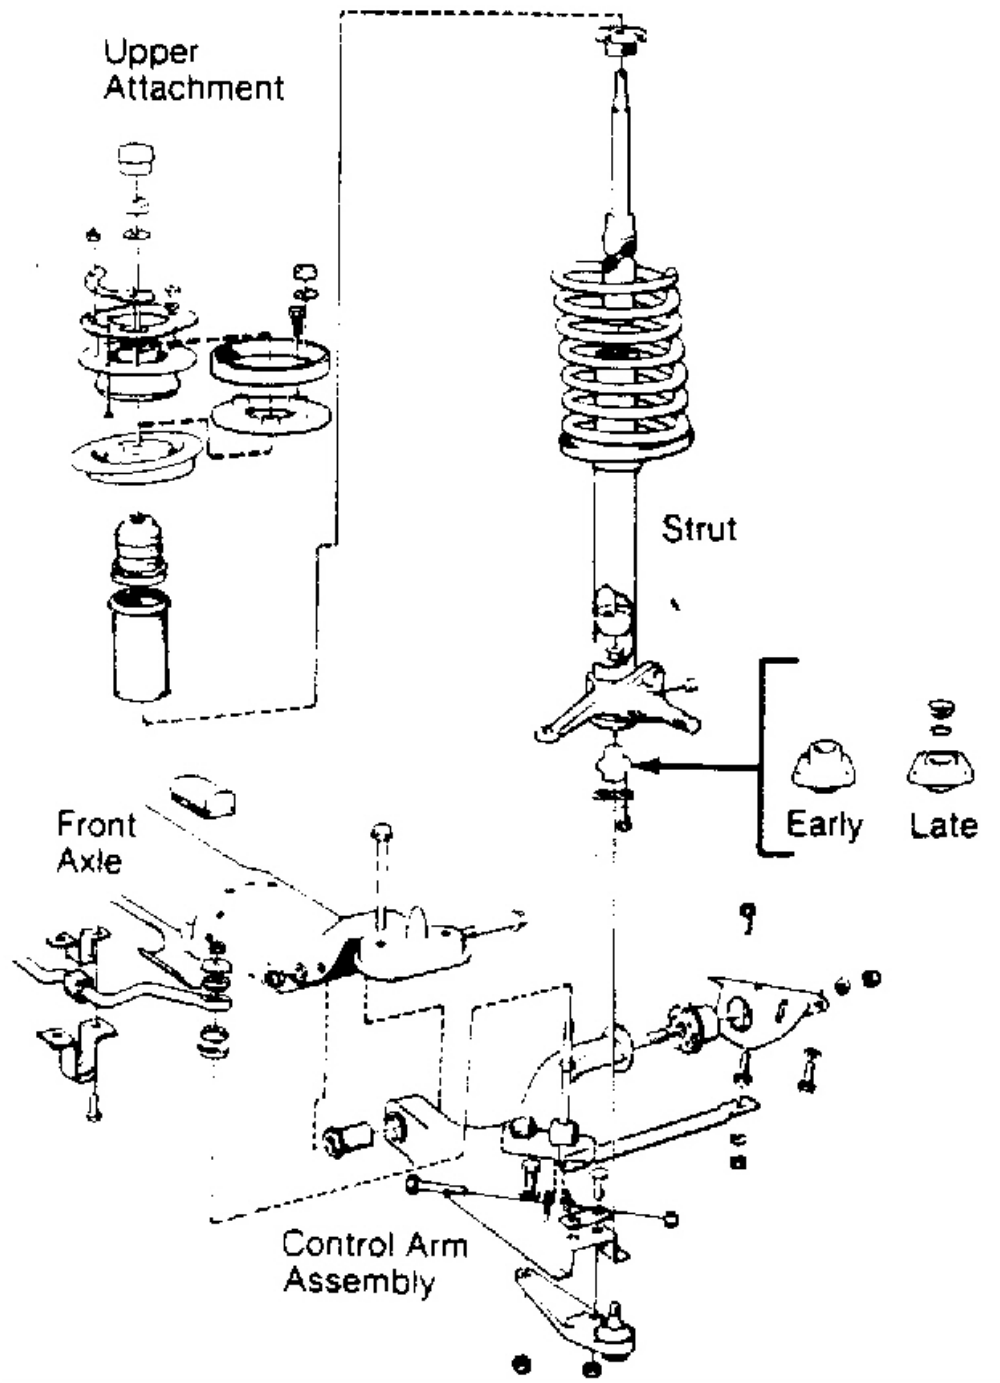

Fig. 2: Exploded View Of Front Suspension (240)
3. Remove ball joint retaining nut, located inside strut housing. See **Fig. 2** . If necessary, use long brass drift to tap ball joint from strut housing. Remove ball joint-to-strut nuts on control arm.
1. Raise and support vehicle. Mark front wheels to avoid rebalancing. Disconnect stabilizer link and ball joint from control arm. See **Fig. 2** . Disconnect rear bushing bracket from chassis.
2. Compress spring and remove center nut, upper spring seat and spring. Using Wrench (5039 for standard strut or 5173 for gas strut), remove strut retaining nut and strut. See **Fig. 2** .